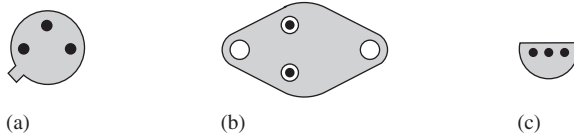

FIGURE 3-79
- 35. Identify the leads on the transistors in Figure 3-79. Bottom views are shown.